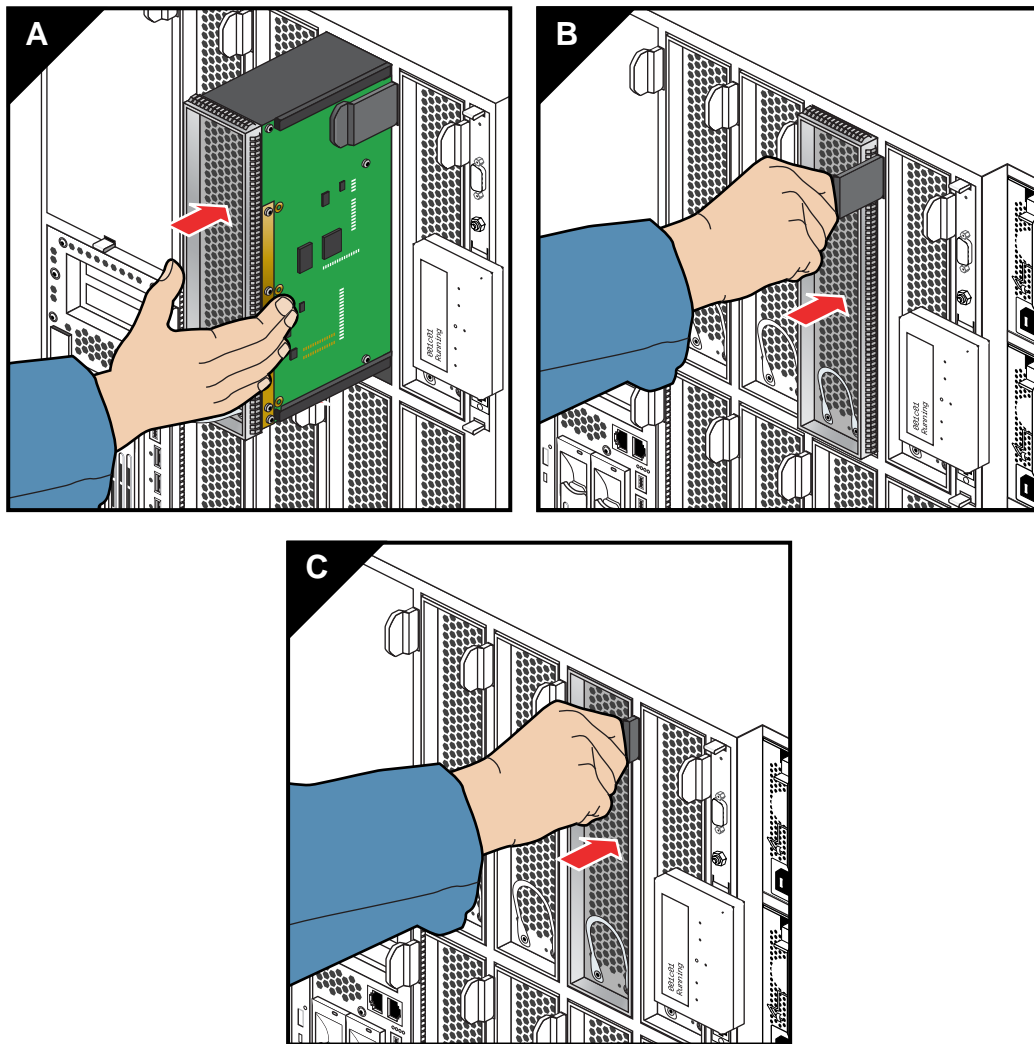

Figure 6-9 Replacing a Compute/Memory Blade in the IRU
7. Carefully push the retention tab back into place so that the blade is locked down, see Figure 6-9 for an example.